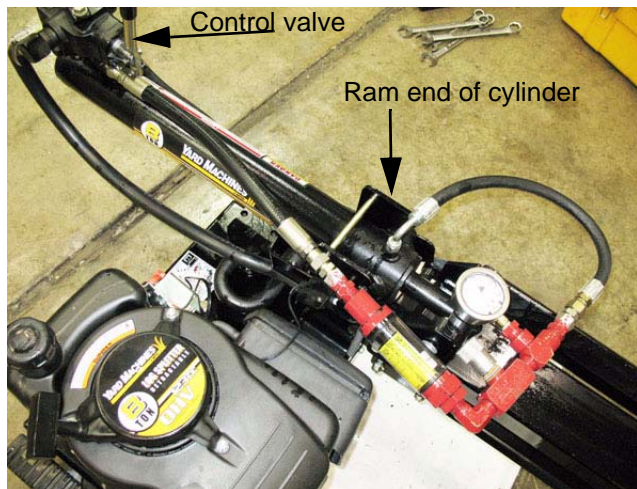

Figure 3.17
- 6.3. Install the test gauges between the log splitter control valve and the fitting at the ram end of the hydraulic cylinder. See Figure 3.17.